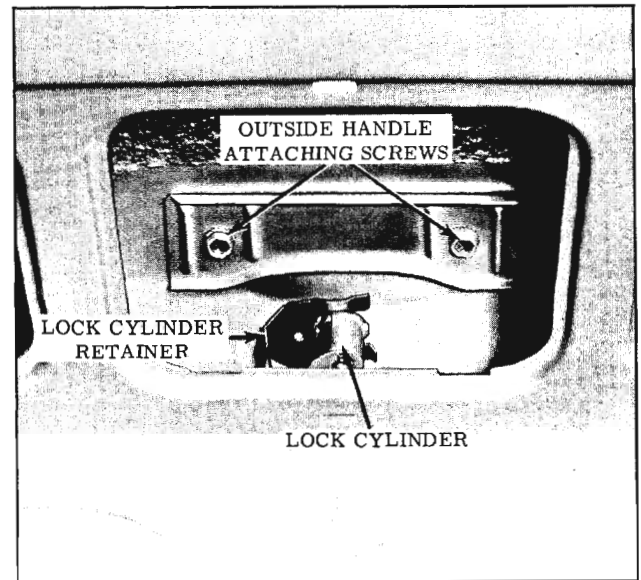

Fig. 16-291 Back Door Outside Handle &amp; Lock Cylinder
4. Remove screws securing outside handle (Fig. 16-291) and remove handle and gaskets.